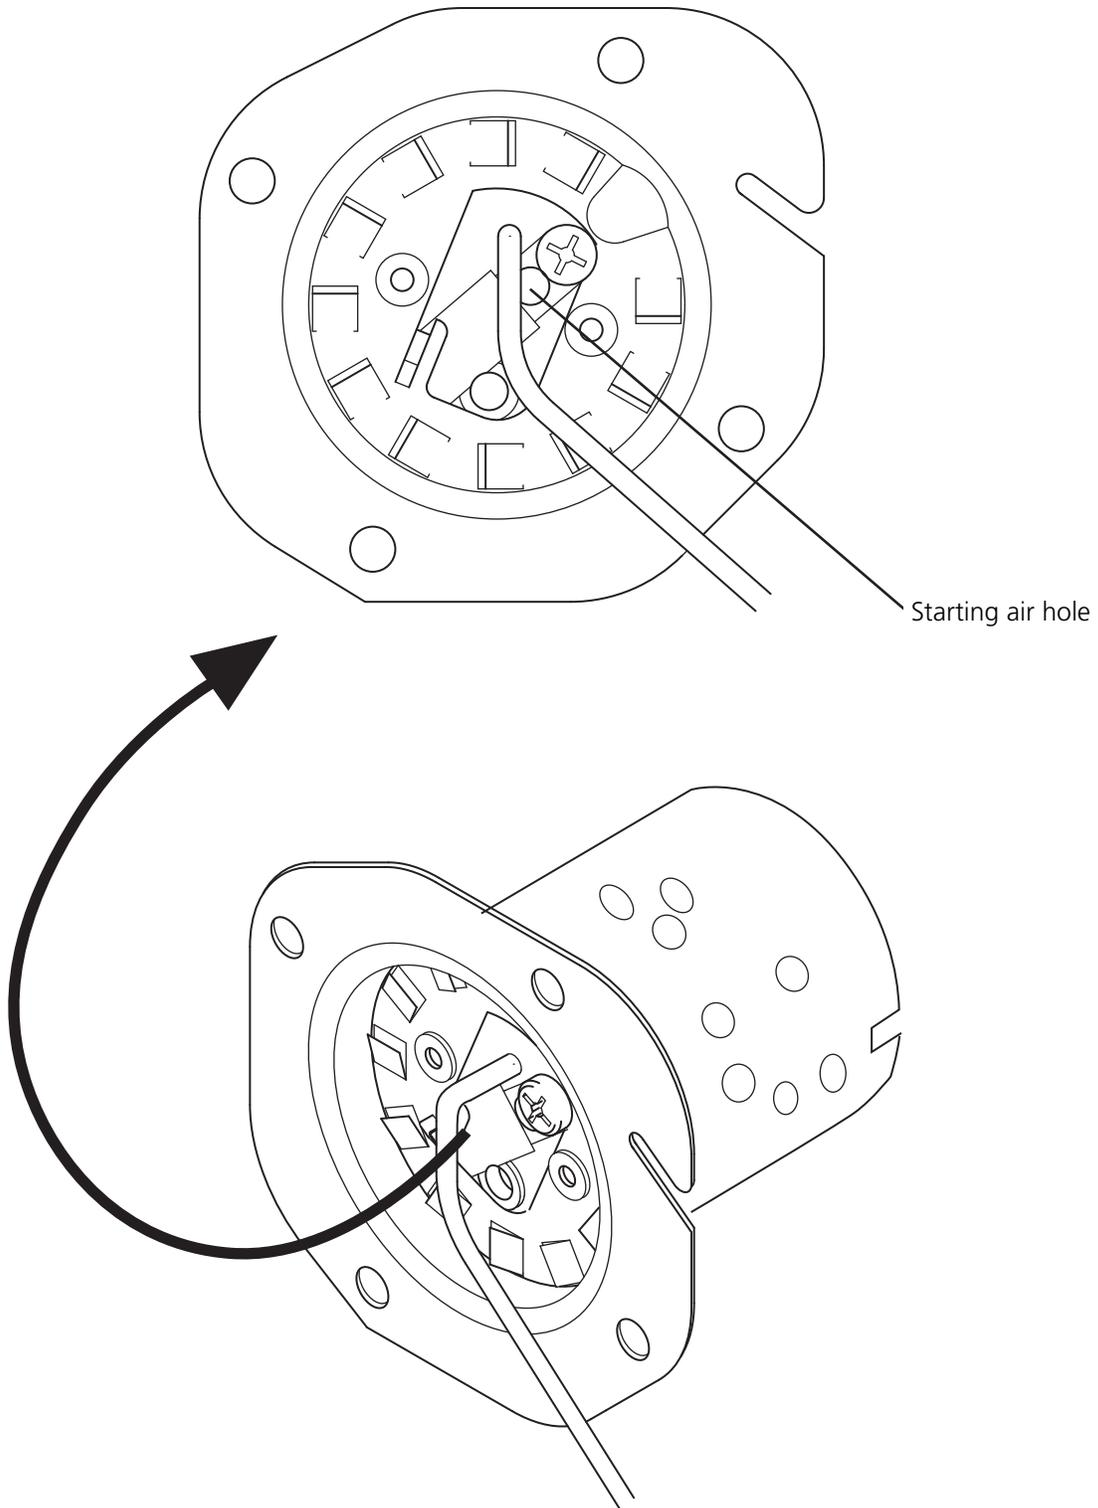

Figure 32: Starting air hole in burner insert
2. Check that the starting air hole in the burner insert (5) is free. If necessary, clean with a wire, approximately 4 mm Ø (5/32 in Ø) (see Fig. 32).
3. Introduce the glow plug (6) in the burner insert (5) and position the protective sheath in the slit of the burner insert.
4. Secure the glow plug (6) with the screw (7). Tighten the screw (7) to 0.5 Nm (4.4 lb-in).
5. Introduce the burner insert (5) in the heat exchanger (9). Make sure that the cable of the flame sensor (1) (only present with petrol heater) is positioned under the fuel line.
6. Guide the plug of the glow plug and the flame sensor through the holes and press the cable grommets (10) into the heat exchanger.
**CAUTION:** In the following procedure make sure that the grommet (8) seals off tight with the heat exchanger (9).
7. Secure the burner insert (5) and the air baffle (3) with screws (2). Tighten the screws (2) to  $6 \pm 0.6$  Nm ( $53 \pm .5$  lb-in).